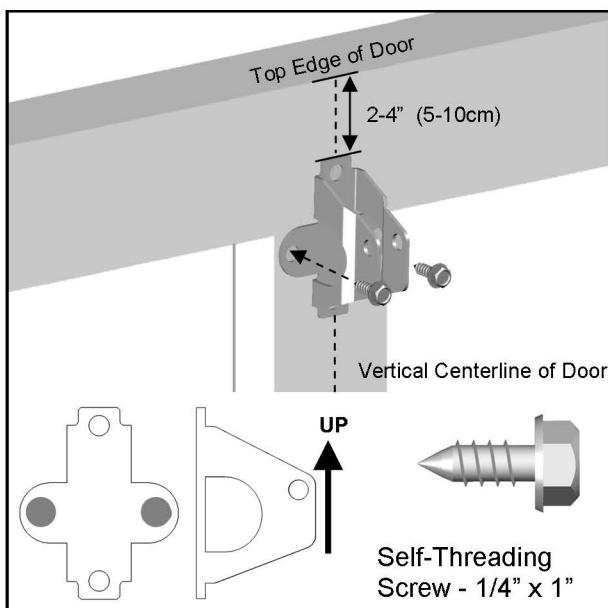

Fig.2
1. Position the Door Bracket on the centerline of the door approximately 2" - 4" (5-10cm) below the top edge of the door, as shown in Fig.2.